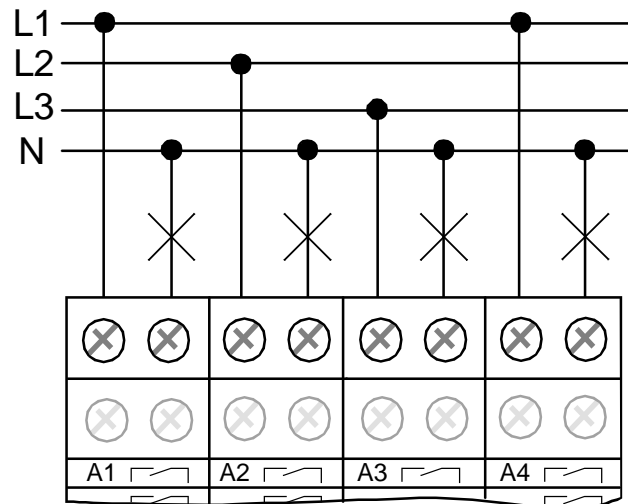

Fig. 3: Electrical connection for loads in switching mode
- Connect the loads and the bus line as shown in fig. 3 (connection example).